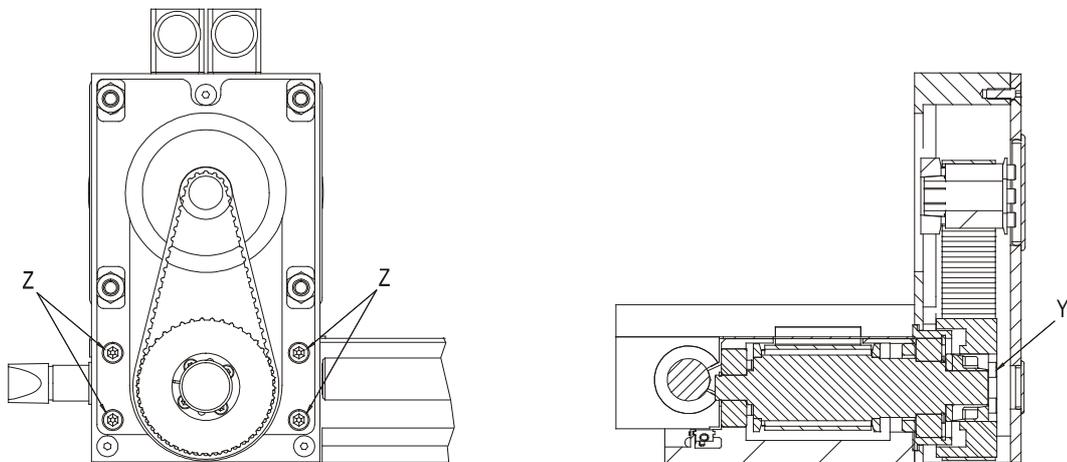

Figure 29: Drive set module 142 open and cut view
- Remove the toothed belt from the shaft of the drive set by loosening the screws, (see *Figure 29, bottom, Y*).
- Install motor flange (see *Figure 29, page 30, Z*).
Push the clamping set all the way to the rear. Observe that the screws (**Y**) (see *Figure 29, page 30*) are tightened evenly in sequence. Check that the toothed disc turns freely.